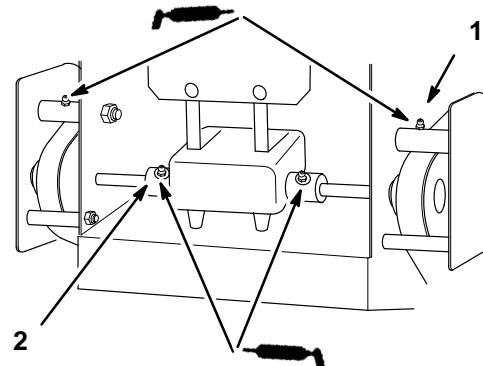

Figure 39
2. Lubricate the transmission couplers every 50 hours and idler arm pivots every 8 hours (Fig 39).